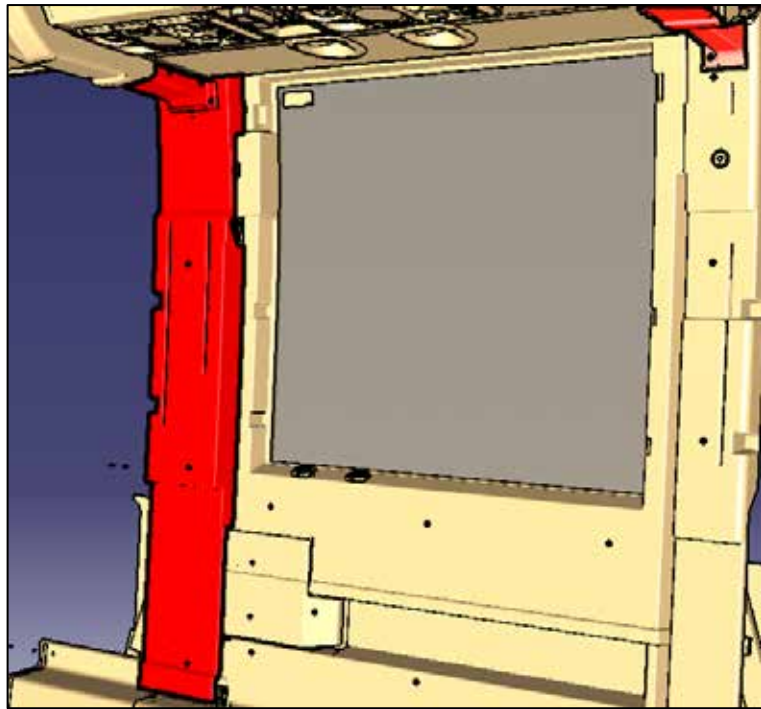

Figure 8
3. Also remove the upper right hand corner trim. (Figure 8)